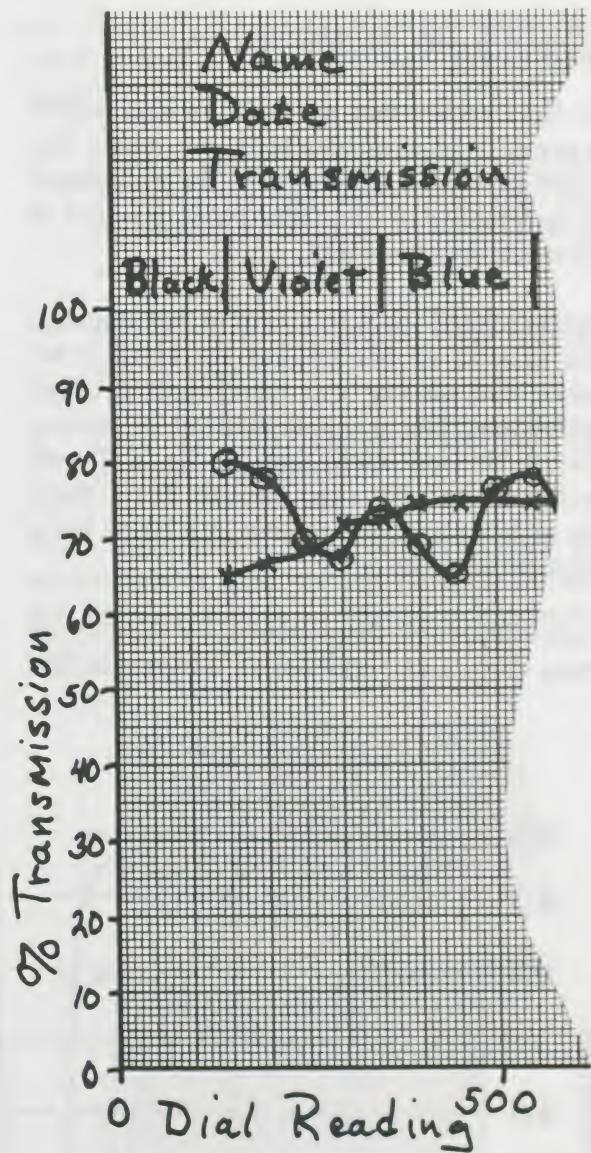

Figure 63.
1. *Label a piece of graph paper with Dial Reading on the horizontal axis and Percent Transmission on the vertical axis, as illustrated in Figure 63.*
4. *Label the observed color boundaries on the top of your graph as in Figure 63.*